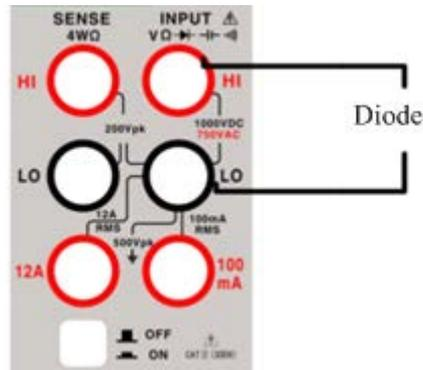

Figure 2.6.2 Diode measurement terminal connection
2. According to Figure 2.6.2, connect the red and black test leads respectively to the proper input terminals.
3. According to Figure 2.6.2, connect the test leads to the terminals of the diode and read the display.